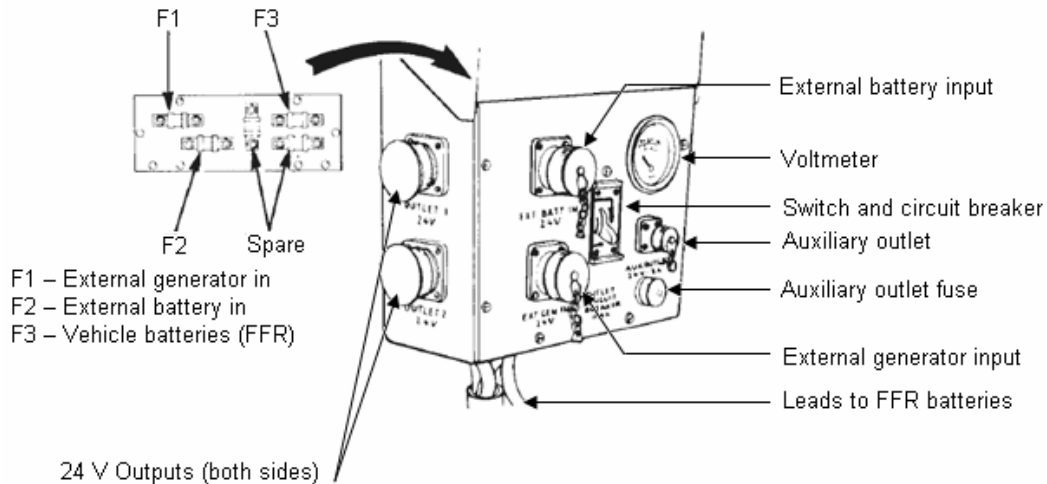

Figure 2 Power Distribution Box
8. **Power Distribution Box (PDB).** A power distribution box (Figure 2) is installed in the rear compartment to enable radios, auxiliary equipment, and batteries to be interconnected. The PDB provides the following connections and controls: